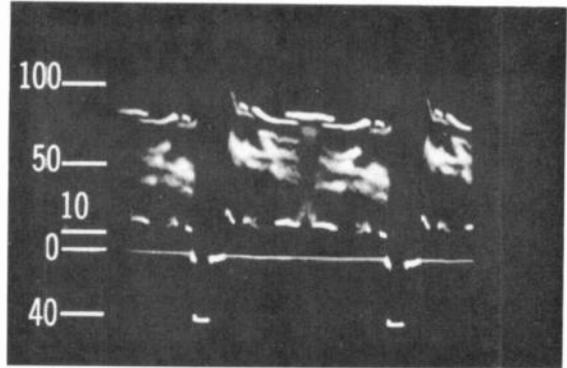

FIGURE 5-8 VIDEO SIGNAL ON STANDARD IRE SCALE OF 140 WITH 10 UNITS FOR BLACK SETUP.
**IRE amplitude scale.** On oscilloscope monitors at the studio, the video signal is checked with negative sync polarity down, to fit the IRE scale shown in Fig. 5-8. The IRE stands for Institute of Radio Engineers, now called the Institute of Electrical and Electronic Engineers (IEEE). Of the 140 IRE units, 40 are for sync amplitudes and 10 for black setup. The 140 units correspond to 1-V peak-to-peak video signal to feed 75- $\Omega$  coaxial cable between amplifier units.